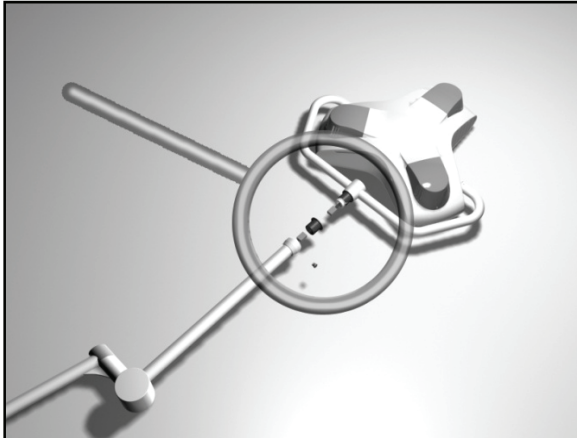

Figure 1
1. Figure 1 above shows the correct orientation of the spring arm to the light head.